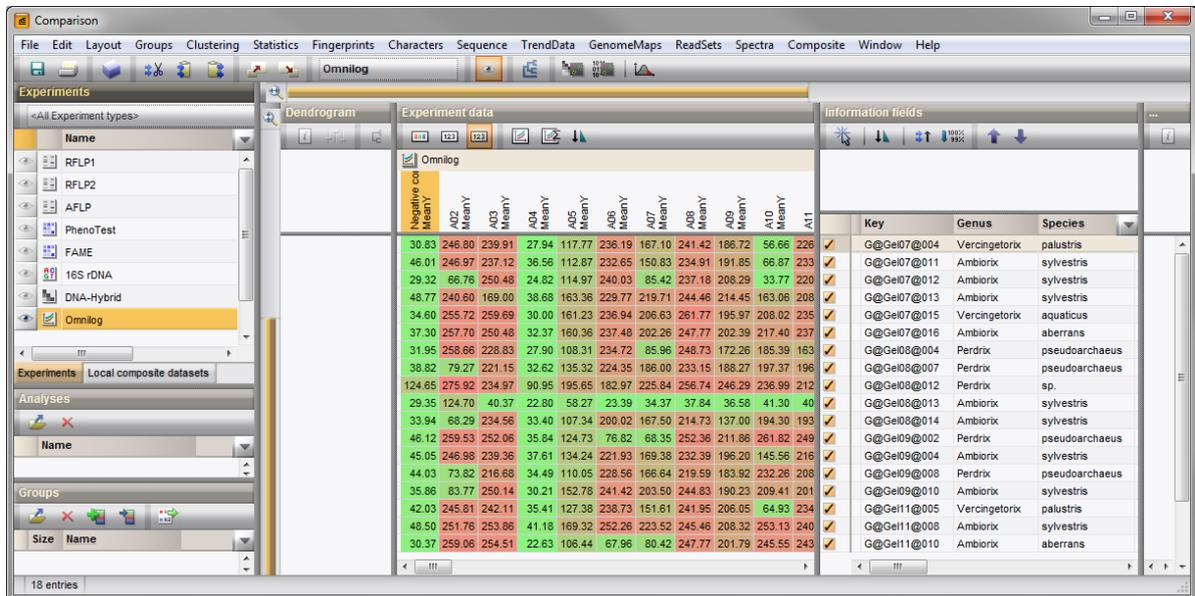

Figure 19: The *Comparison* window.
10. Click on the  next to the experiment name **Omnilog** in the *Experiments* panel to display the defined parameter(s) in the *Experiment data* panel (see Figure 19).